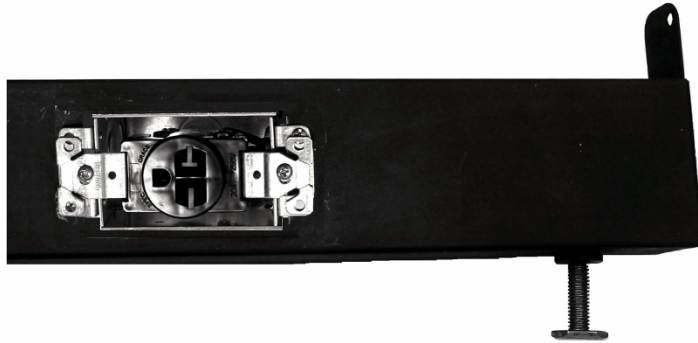

Figure 9 – Fasten Receptacle to Junction Box
Step 7 — Use factory supplied screws to fasten “Receptacle” to junction box on the subbase as shown in figure 9.